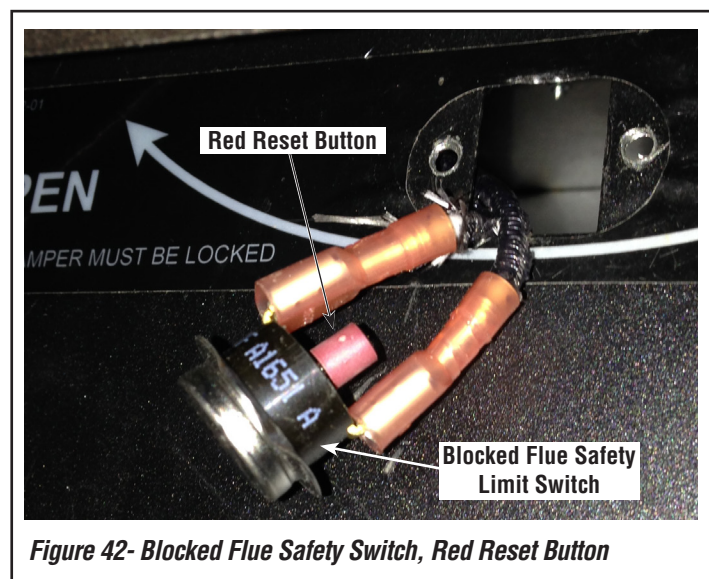

Figure 42- Blocked Flue Safety Switch, Red Reset Button
2. Press the red reset button on the switch (*see Figure 42*).